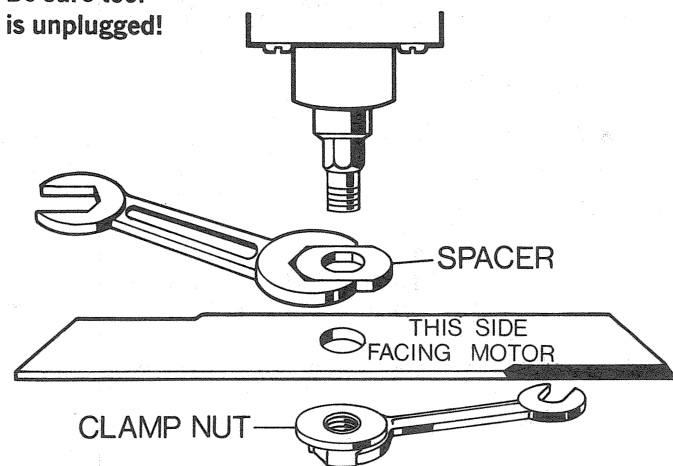

FIGURE 6
1. To keep shaft from turning as you loosen the clamp nut, use two wrenches (Figure 6).